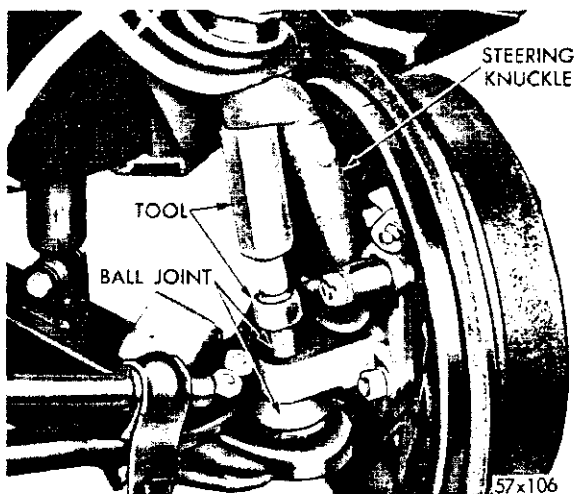
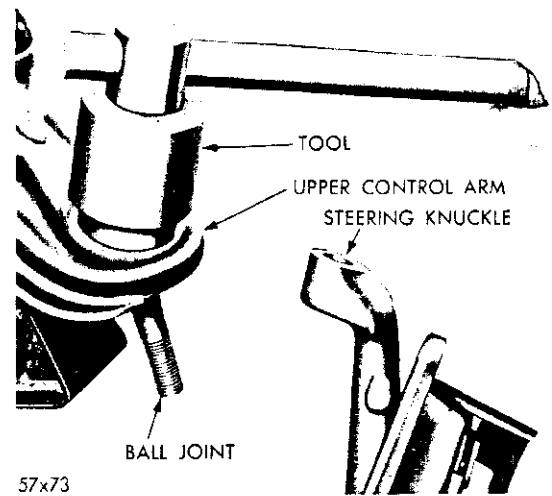
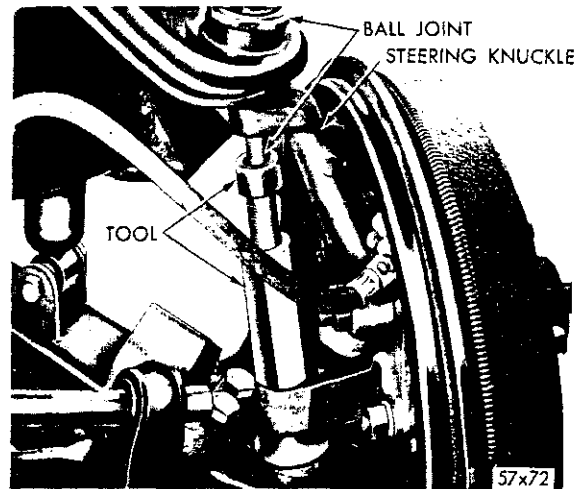

Fig. 8—Removing the Lower Ball Joint from Knuckle
Fig. 9—Removing the Ball Joint
Fig. 10—Removing the Upper Ball Joint from the Knuckle
(1) Place a jack under the lower control arm and raise the vehicle.
(2) Remove the wheel and tire assembly.
(3) Remove the upper and lower ball joint and nuts. Slide Tool C-3564 over the upper stud until the tool rests on the steering knuckle. Turn the threaded portion of the tool locking it securely against the lower stud (Fig. 8). Spread the tool enough to place the lower stud under pressure, then strike the steering knuckle sharply with a hammer to loosen the stud. Do not attempt to force the stud out of the knuckle with the tool alone.
(4) Remove the tool, then disengage the ball joint from the knuckle.
(5) Using Tool C-3560 for Models SC-1 and SC-2, or Tool C-3561 for Models SC-3 and SY-1, as shown in Figure 9, unscrew the ball joint housing from the lower control arm and remove.
(1) Place a jack under the lower control arm as close to the wheel as possible. Raise the wheel off the floor.
(3) Remove the upper and lower balljoint stud nuts. Slide Tool C-3564 down over the lower stud until the tool rests on the steering knuckle. Turn the threaded portion of the tool locking it securely against upper stud (Fig. 10). Spread the tool enough to place the upper stud under pressure, then strike the steering knuckle sharply with a hammer to loosen the stud. **Do not attempt to force the stud out of the knuckle with the tool alone.**
(5) Using Tool C-3560 for Models SC-1, and SC-2 or Tool C-3561 for Models SC-3 and SY-1 (Fig. 9) unscrew the ball joint from the upper control arm.
(1) Place a jack under the number 2 crossmember and raise the vehicle until both front wheels clear the floor.
(2) Remove the torsion bar, Paragraph "Torsion Bars".
(3) Remove the wheel and tire assembly.
(4) Disconnect the shock absorber at the lower control arm bracket then push the shock absorber up into the frame out of the way.
(5) Remove the nuts, lockwashers and bolts that attach the strut to the lower control arm.
(6) Remove the upper and lower ball joint stud nuts. Slide Tool C-3564 over the upper stud until the tool rests on the steering knuckle. Turn the threaded portion of the tool locking it securely against the lower stud (Fig. 8). Spread the tool enough to place the lower stud under pressure, then strike the steering knuckle sharply with a hammer to loosen the stud. **Do not attempt to force the stud out of the knuckle with the tool alone.**
(7) Remove the tool, and disengage the ball joint from the knuckle.
(8) Remove the cotter pin, nut and washer that attaches the lower control arm shaft to the frame. With the washer and cotter pin removed, reinstall the nut until it is flush with the end of the shaft to protect the threads.
(9) Using a hammer and brass drift, loosen the shaft (a tapered fit in front crossmember), then remove the nut. Slide the lower control arm and shaft out from the rear of the crossmember.
(3) Using Tool C-3560 for Models SC-1, and SC-2, or Tool 3561 for Models SC-3 and SY-1 (Fig. 9) unscrew the ball joint from the lower control arm.
(3) Press until the flanged position of the bushing is seated, beyond the locking groove.
(4) Thread the ball joint into the new arm using Tool C-3560 for models SC-1 and SC-2, or Tool C-3561 for Models SC-3 and SY-1 (Fig. 9).
(5) Tighten to a minimum of 125 foot-pounds torque on (SC-1 and SC-2) Models, and 150 foot-pounds on (SC-3 and SY-1) Models until the ball joint is seated (the ball joint will cut threads into the new arm during tightening operation).
(1) Place a jack under the lower control arm as close to the wheel as possible. Raise the jack until the front wheel clears the floor.
(3) Remove the upper and lower ball joint stud nuts. Slide the Tool C-3564 down over the lower stud until the tool rests on the steering knuckle. Turn the threaded portion of the tool locking it securely against the upper stud (Fig. 10). Spread the tool enough to place the upper stud under pressure then strike the knuckle sharply with a hammer to loosen the stud. Do not attempt to force the stud out of the knuckle with the tool alone.
(5) Remove the nuts, lockwashers and bolts attaching the upper control arm bushings to the front and rear support. Lift the upper control arm up and away from the support.